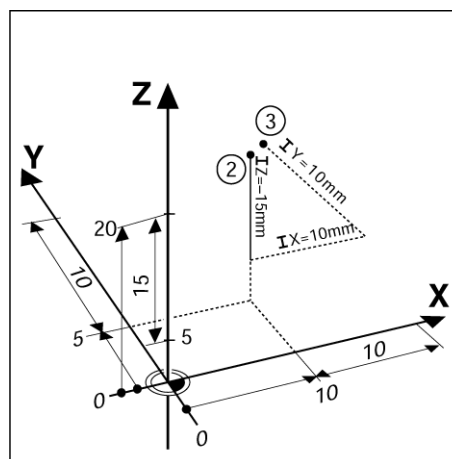

Fig. I.7 Positions 2 and 3 through incremental coordinates
**Example:** Incremental coordinates of position **3** referenced to position **2**. See Fig. I.7